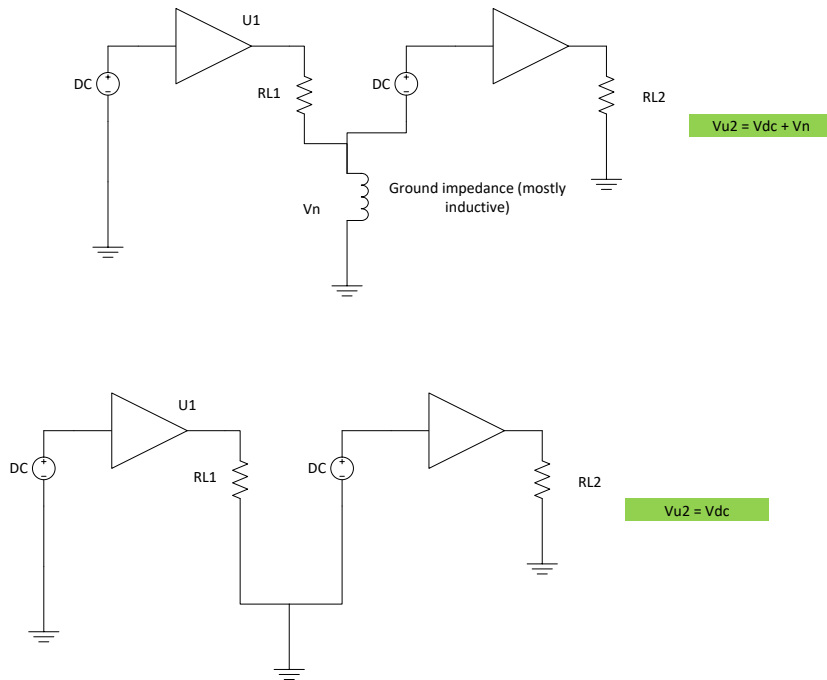

Fig 1
- **Make sure that common return paths for currents are avoided to a maximum degree. The issue is that a noise voltage can develop at a victim simply because two elements share the same ground impedance. This is illustrated in the circuits of Fig 1 and could be caused by a common ground track for both amplifiers in the first circuit, as opposed to both amplifiers connecting to the same ground point at the entry to the PCBA in question, as is the case for the second circuit.**